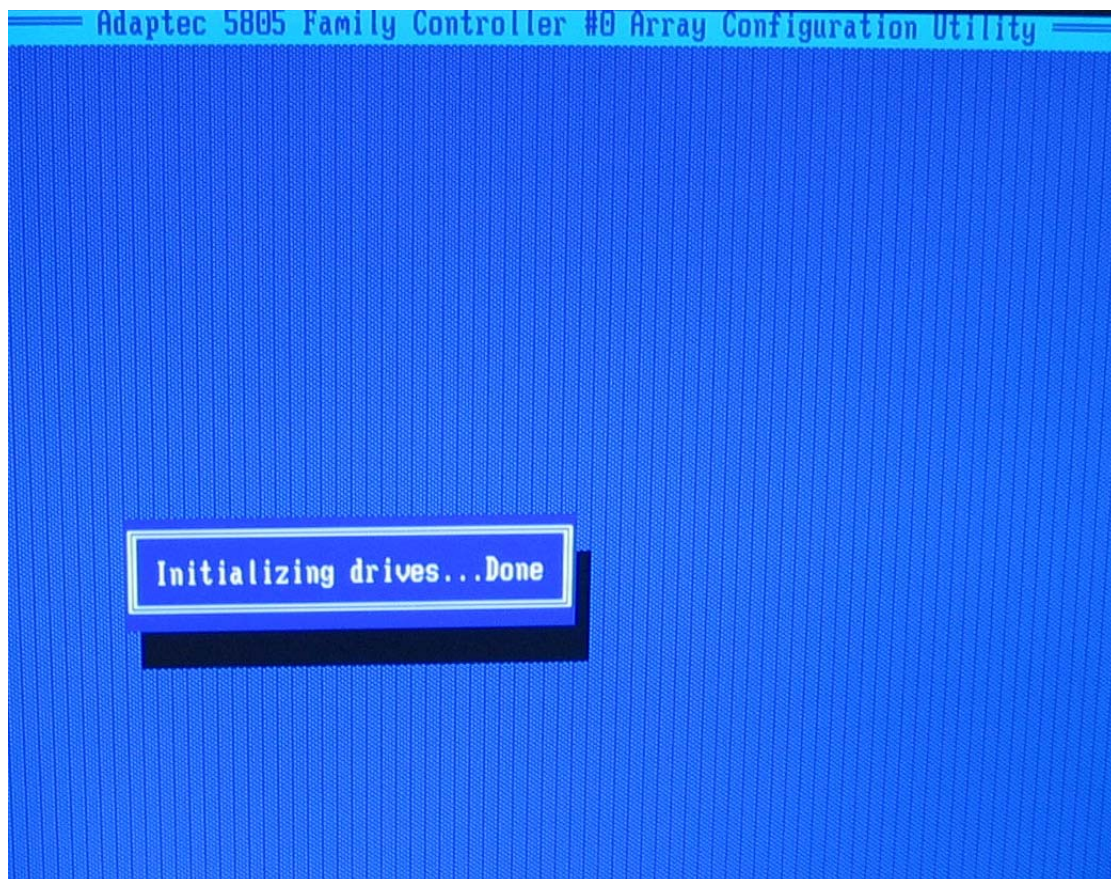

Figure 7-3 Select Drives
4. Select **Initialize all Hard Drives** for the array, press **Insert** for each selected disk drive, then press **Enter**. (Figure 7-3).